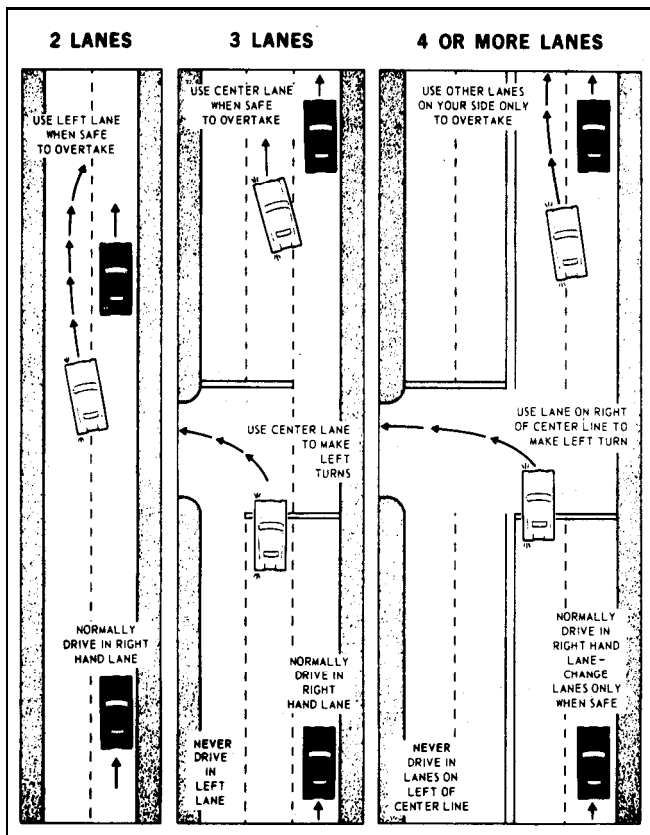

FIGURE 14
9.3 DRIVING IN THE PROPER LANE. Traffic regulations require the driver to operate a vehicle in the right-hand lane, except when overtaking a vehicle moving in the same direction at which time the driver may use the left lane if it is clear of all traffic and has the space required to pass. Multiple-lane highways allow drivers to pass or change lanes in preparation for a turn either to the right or left (Figure 14). If the traffic is heavy, avoid changing lanes and maintain constant safe speed to conform with traffic movement.